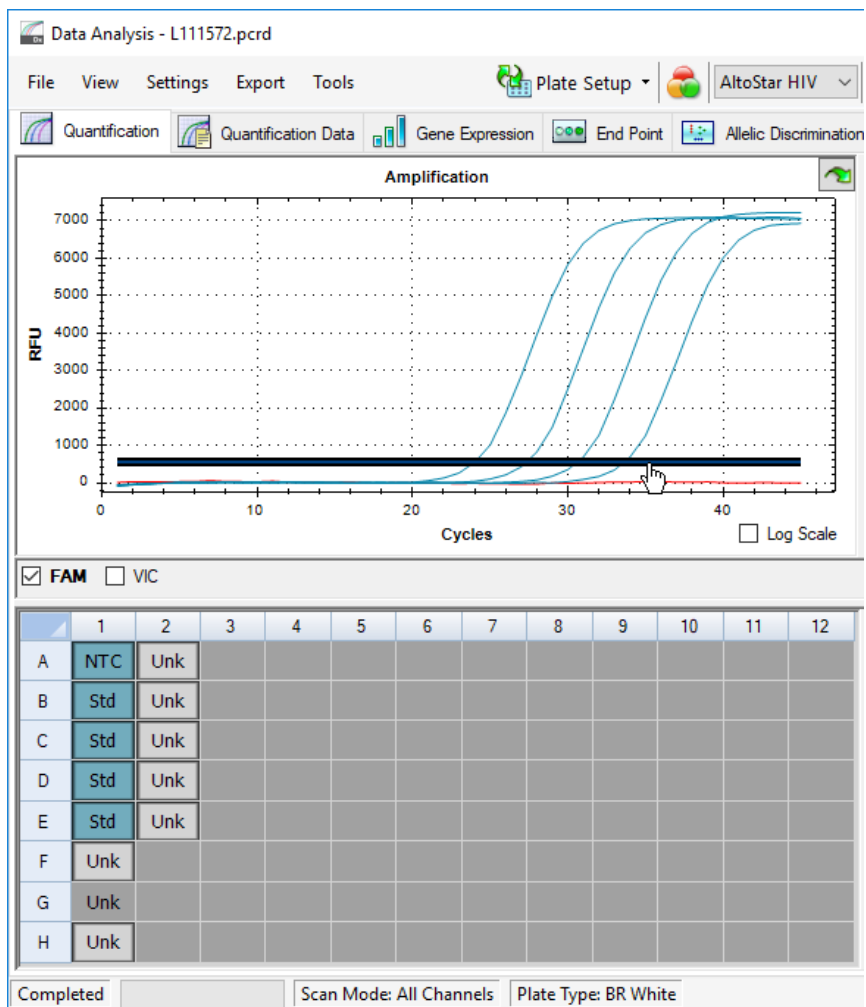

Figure 10: Data Analysis window: setting the FAM™ threshold
5. At the left side of the Data Analysis window untick the **VIC** checkbox and tick the **FAM** checkbox for the detection channel of the HIV target (see figure 10).
6. Select only the wells containing the NTC and the Qs in the plate view of the Data Analysis window (see figure 10).
7. Drag the threshold well above the signal of the NTC into the exponential area of the Qs signals (see figure 10).